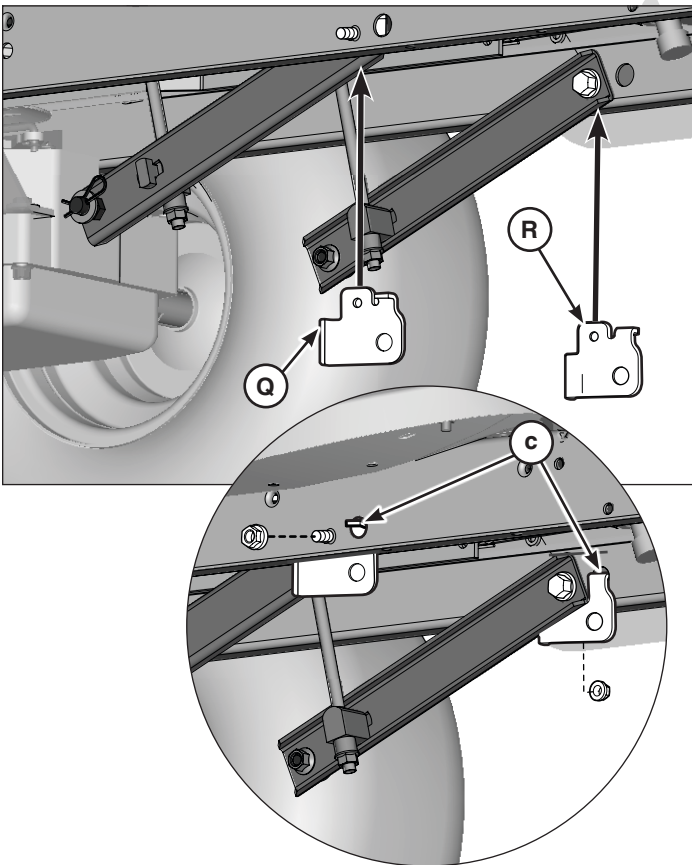

Figure 2
2. Install the right (Q, Figure 2) and left (R) rear hitch supports between the tractor and the lift arm. Secure with nuts and bolts from Step 1. On Regent models, secure the hitch supports with two capscrews (L), and two nuts (N). Make sure that the hooks (c) of the hitch supports are installed through the holes of the tractor frame.